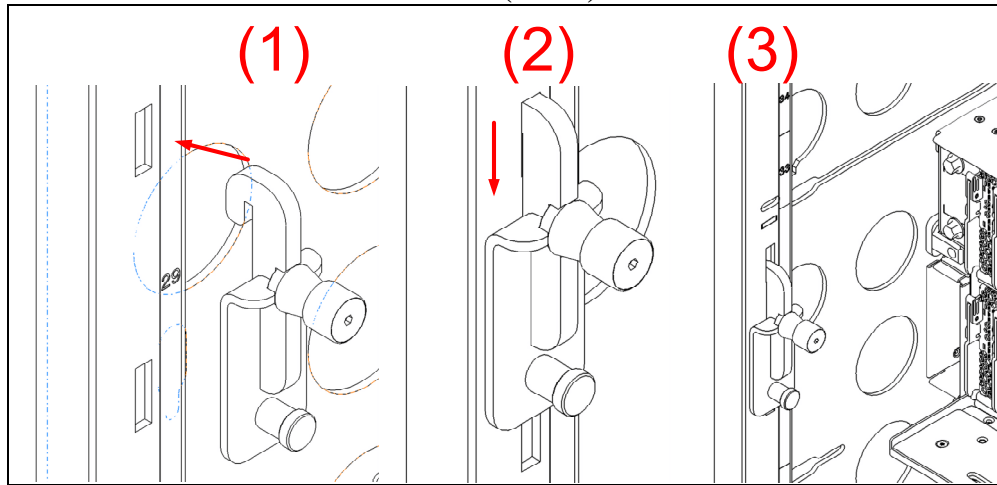

Figure 11 CAM Follower Installation
STEP 19 Locate and remove the CAM Followers from their storage location, they are shipped in the lowest slot in the frame. Remove the CAM Followers by removing the shipping/retention screw, PN 77G0599 using either a 7mm or 8mm socket (depending on which screw was used in Manufacturing) and store the screw for later use. Complete removal by pulling out the plunger locating pin and sliding the CAM Follower up to remove it from its storage location. Install the CAM Follower(see Figure 11) in the rack slot number of the CEC Drawer being serviced; slide CAM Follower hook into the appropriate frame slot so the roller aligns with CEC Drawer channels, then insert pin into frame rail.